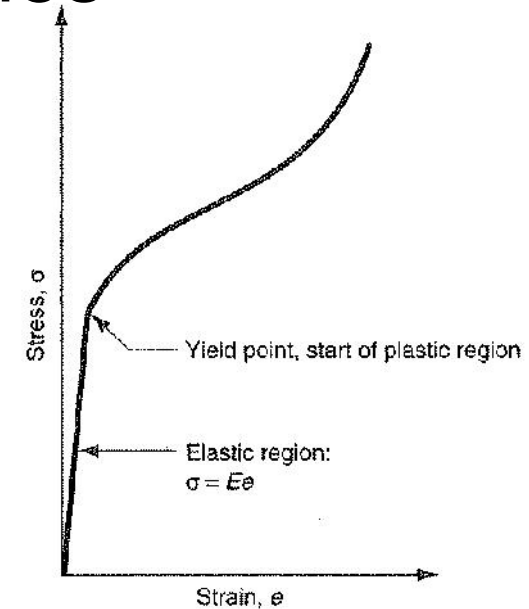

Fig. 3-9: Typical engineering stress-strain curve for a compression test.
- Fig. 3-9 shows an engineering stress-strain curve. The curve has elastic and plastic regions as before, but the shape of the plastic region is different from its tensile test complement. Reasons: